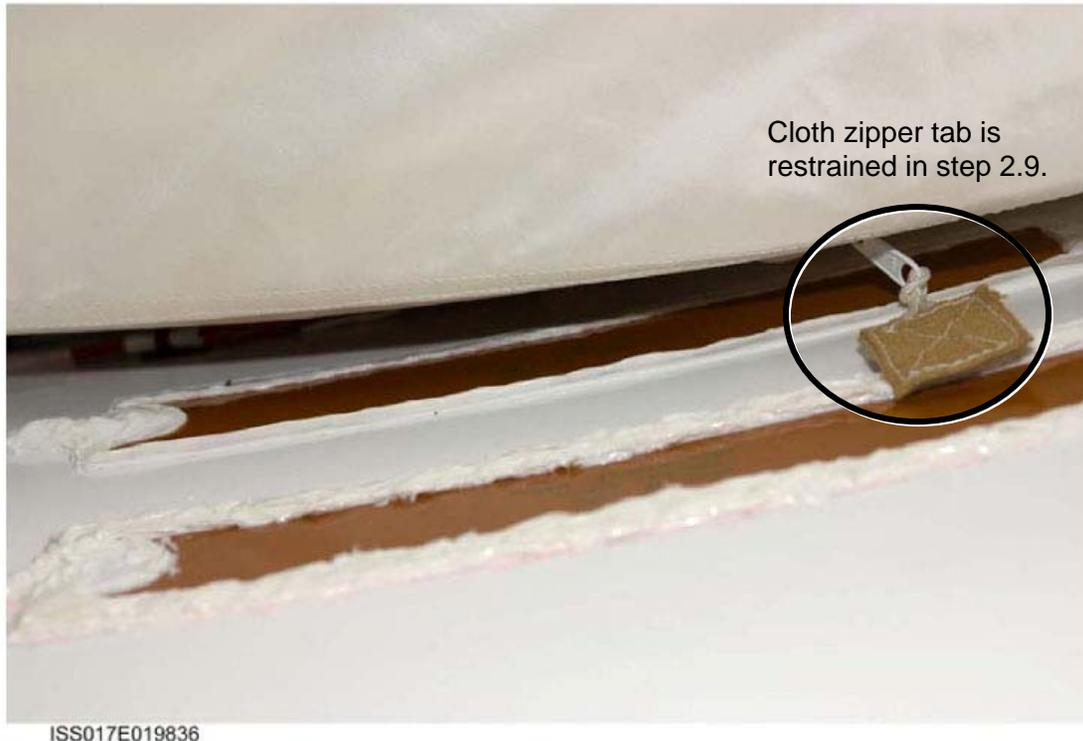

Figure 13.- ZSR Zipper and Cloth Tab Improperly Contacting JEM Shell Heater.
2.9 Restrain zippers and cloth zipper tabs to ZSR to prevent contact with JEM shell heaters (Gray Tape). Refer to Figure 13.